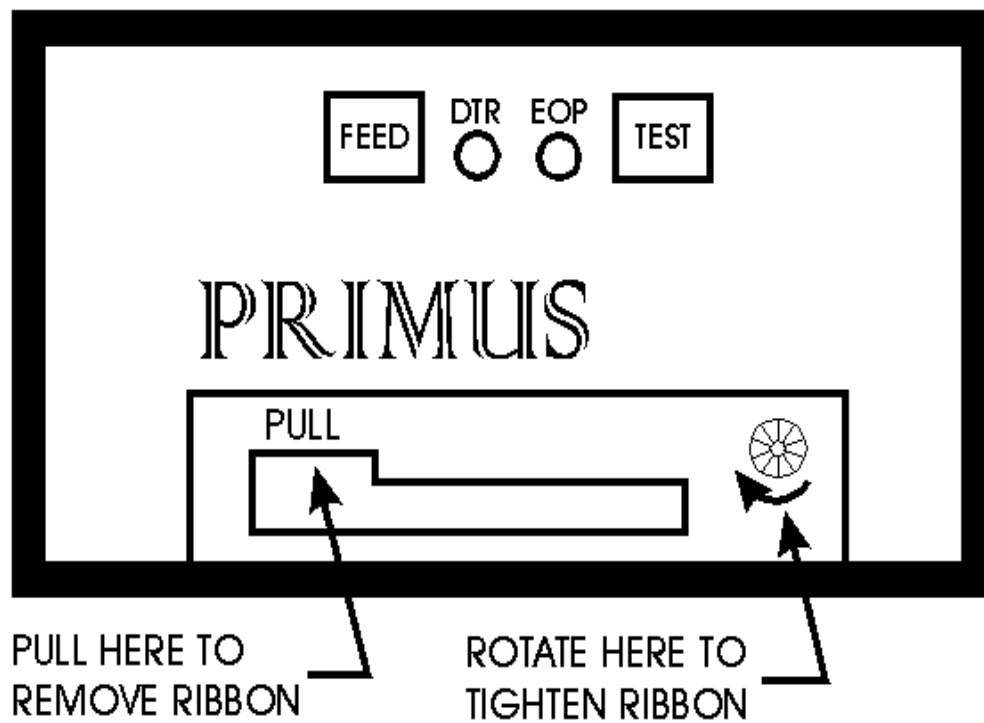

Figure 5.3.4-1 Printer Ribbon Replacement
3. Remove the old ribbon by placing a finger in the notched portion of the upper left corners of the paper slot marked PULL (refer to Figure 5.3.4-1, Printer Ribbon Replacement). Note the relationship of the paper ribbon and print head as the old ribbon is removed.